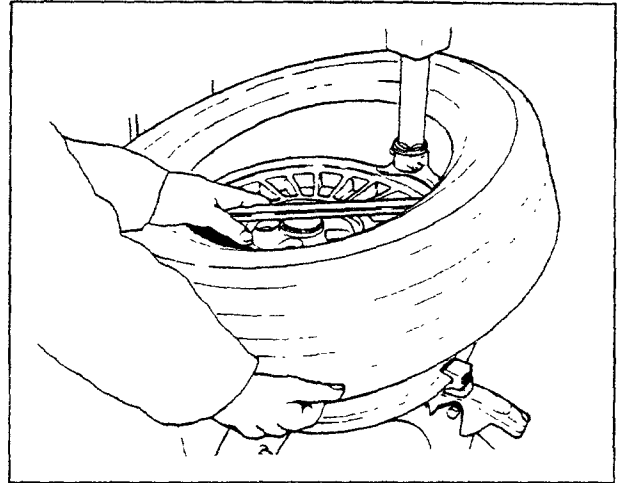

Fig.14
H. Repeat the process for removing the lower bead. This time, lift the bead opposite to the mount/demount head to keep it in the drop center (Fig.14). Move the swing arm aside and remove the tire.